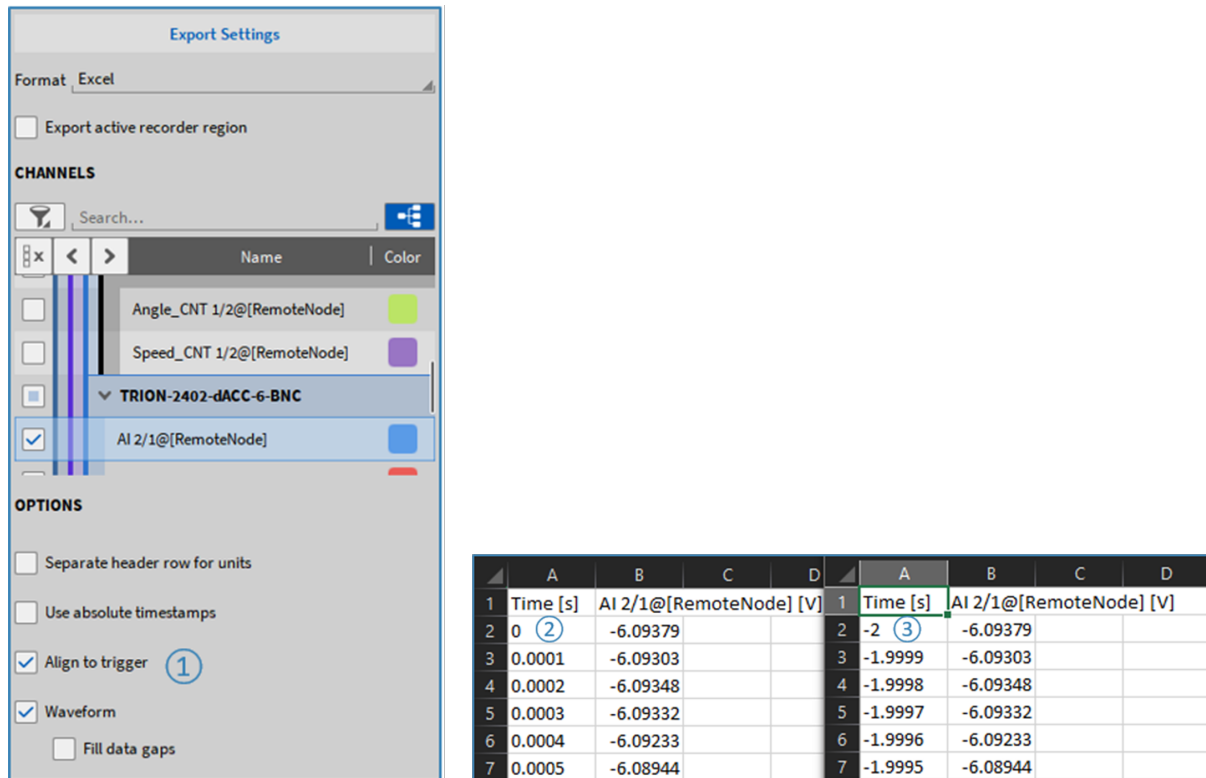

Fig. 11.4: Align timestamps in exported file to zero
Timestamps in an exported data file with a triggered event can be aligned to the trigger (see (1) in Fig. 11.4). If align to trigger is not selected, then the 0s timestamp will be at recording start, not at the trigger (see (2) in Fig. 11.4). If align to trigger is selected, the timestamp at the trigger will then be set to zero. Thus, the time leading up to the trigger event (e.g. the pre-time) will be negative (see (3) in Fig. 11.4).